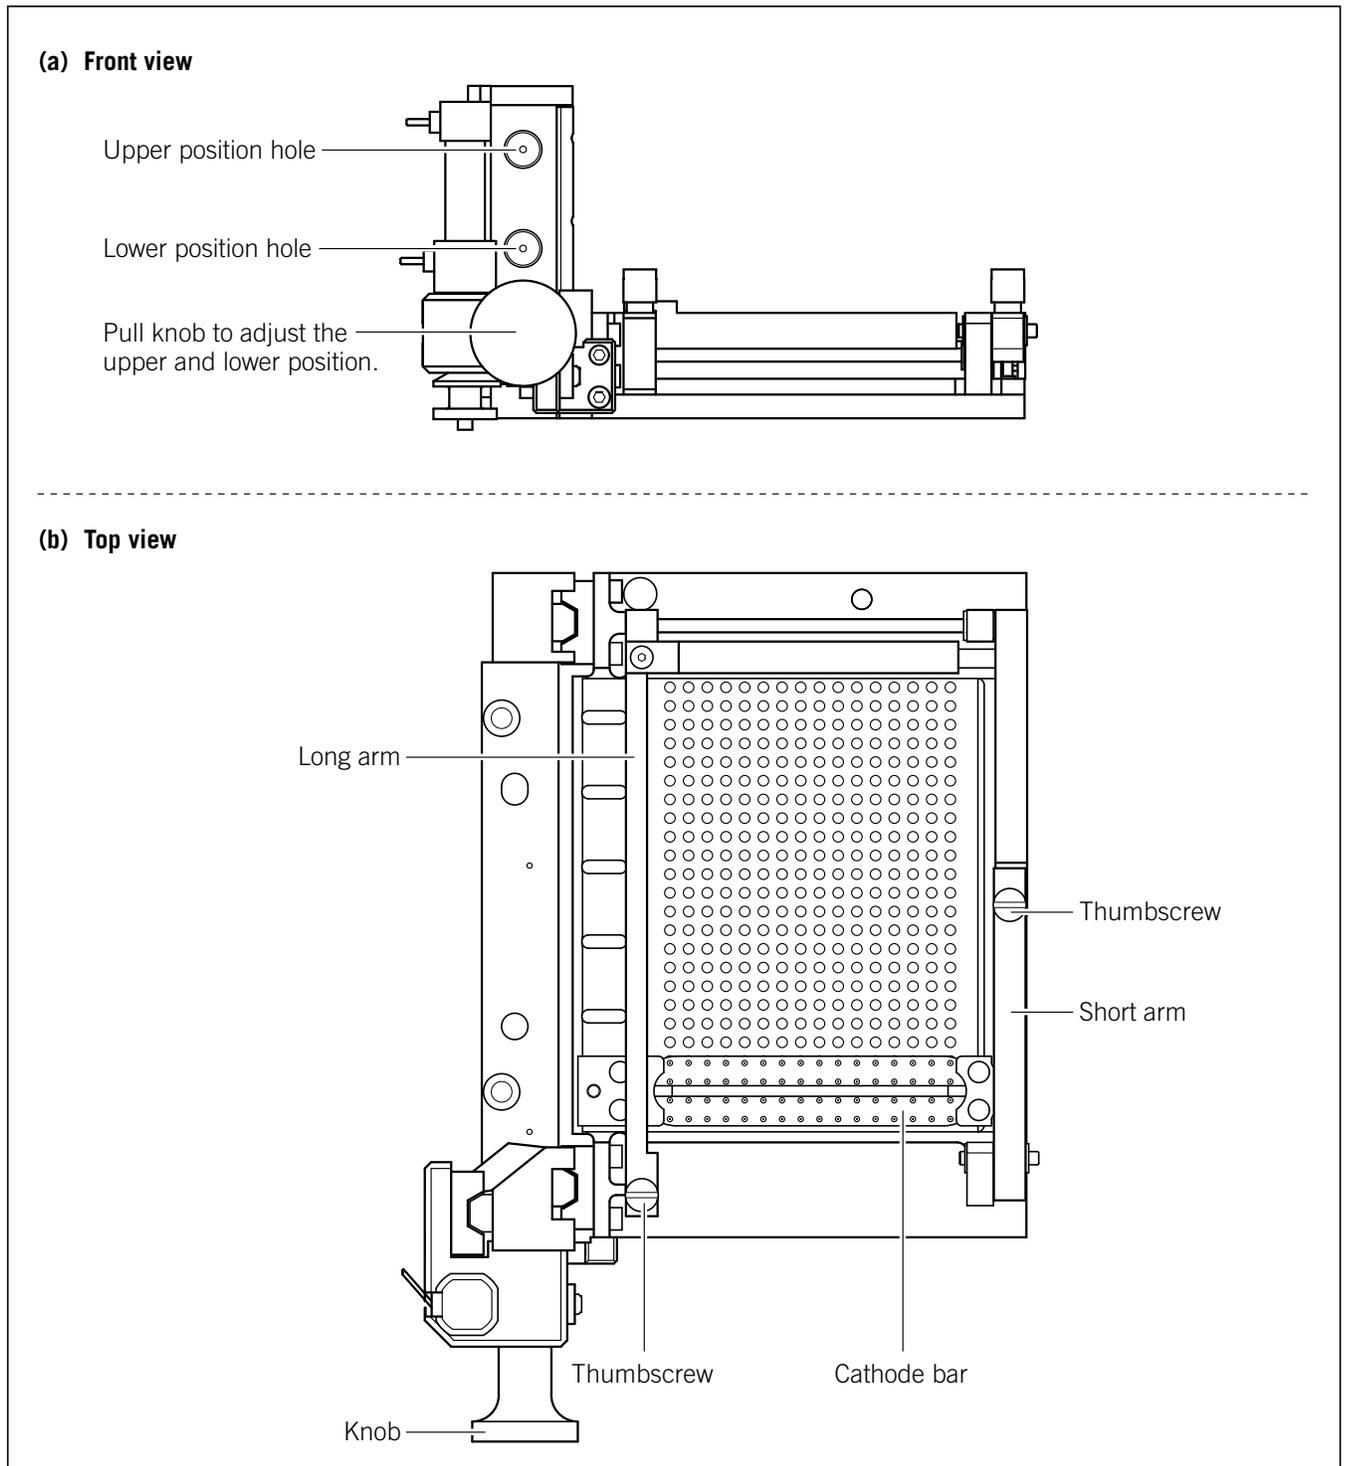

Figure 19-5. The cathode array stand: (a) front view and (b) top view.
4. Start with the front array labeled 6. Gently lift the left and right ends of the front cathode bar (figure 19-5) to release the bar from the cathode stand.